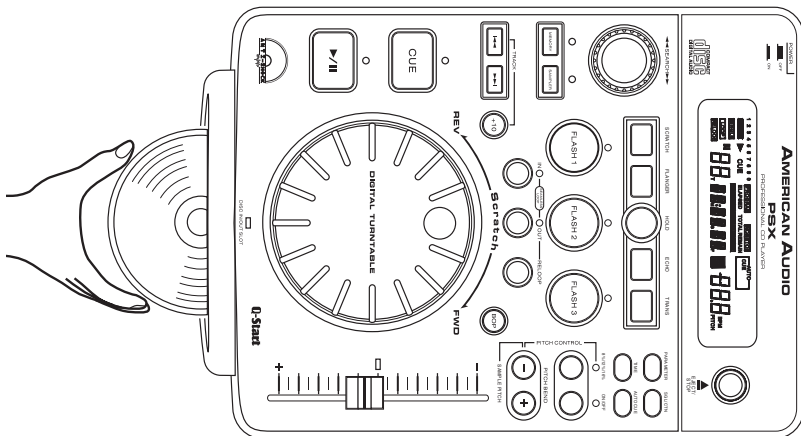
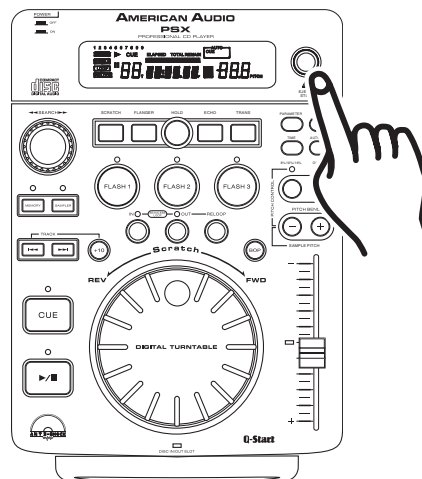

Figure 7: When inserting a disc always hold the disc by it edges and load the disc label side up.
Figure 8
The PSX™ can only play regular 5 inch CDs. 3 inch, odd shaped, and oval CDs are not compatible. When loading a CD into the player always hold the disc by it edge (see Figure 7). Load the disc label side up and slide it in the disc slot. Never touch the signal surface (the glossy side). To remove a disc from the slot press the *EJECT/STOP BUTTON (31)*, see Figure 8.